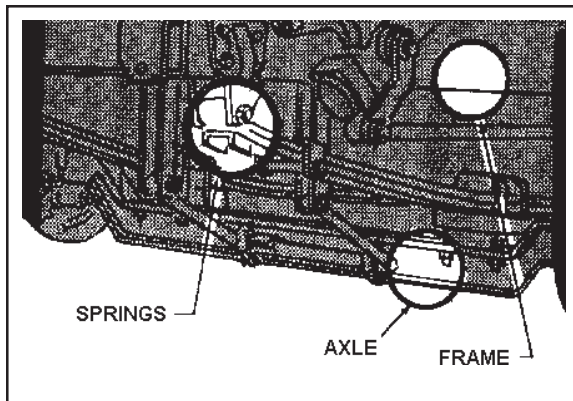

Figure 4-14.
5. Examine the underside of the vehicle and select pickup points suitable for towing. Your choice will usually be either the frame, axle or springs. (See Figure 4-14.)